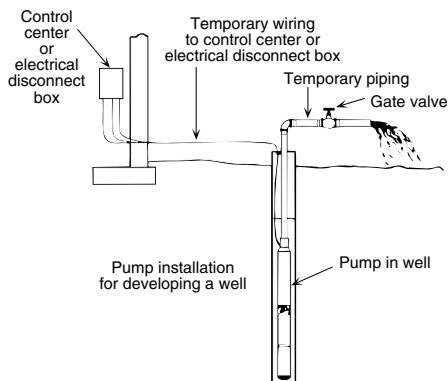

Figure 11 - Temporary connections while cleaning well for start-up.
- Connect a pipe elbow, a short length of pipe and a gate valve to pump discharge at well head (see Figure 11).
5. Set gate valve on discharge 1/3 open; start pump (see Figure 11).